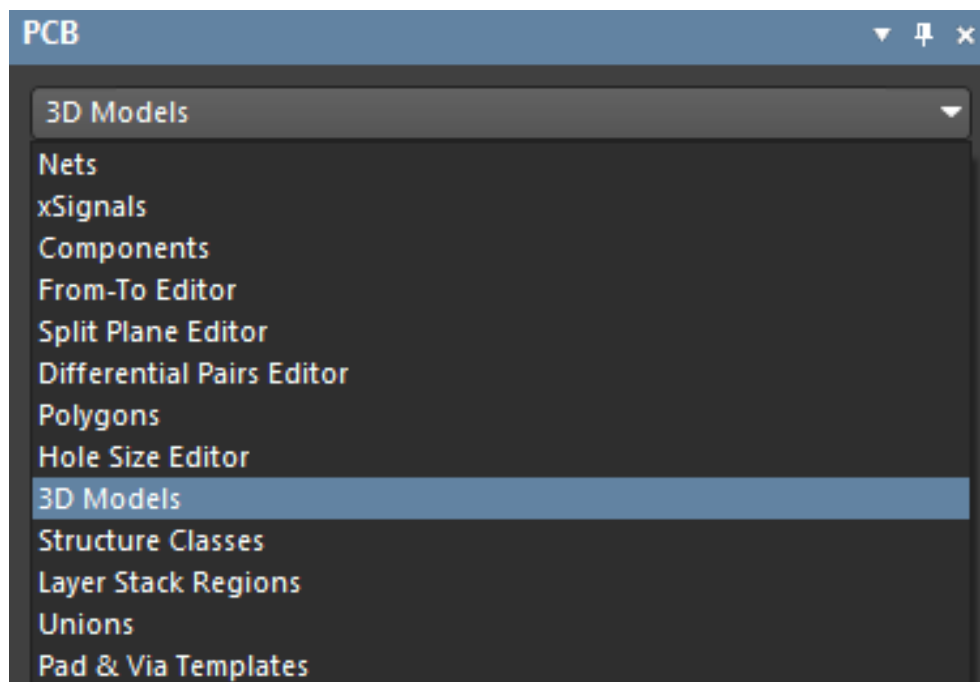

Figure 3. 3D Models from the PCB panel
21. From the drop-down list at the top the panel, select **3D Models**, as shown in Figure 3.